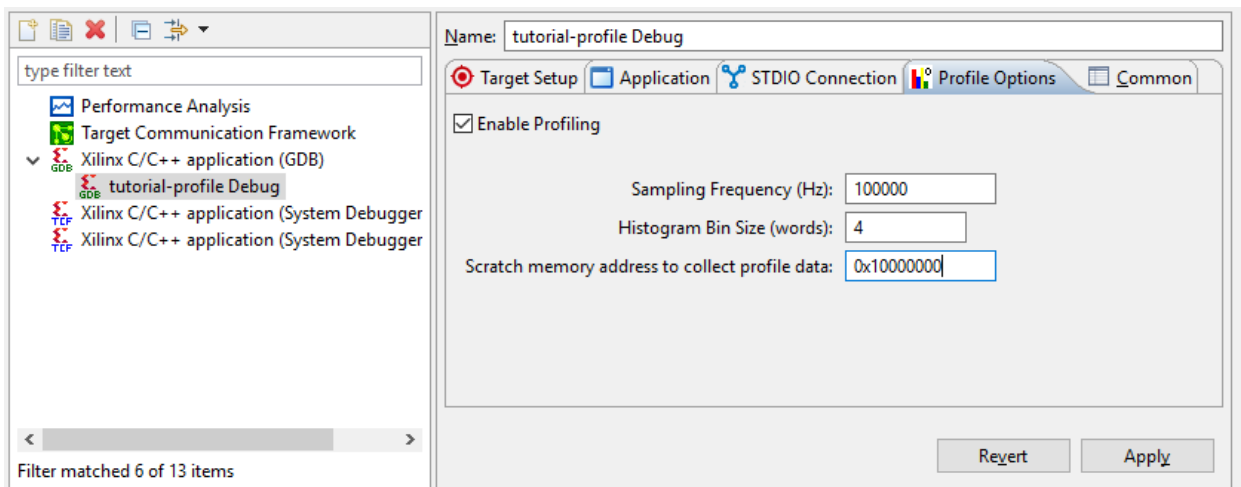

Figure 41: Profiling options.
7. Click on the **Enable Profiling** check-box. Enter **100000** (100 kHz) in the Sampling Frequency field, enter **0x10000000** in the scratch memory address field, and click **Apply**, as in Figure 41.